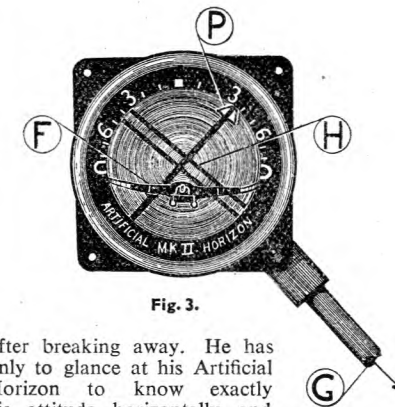

Fig. 3.
plane has moved above the horizon bar to indicate climb, and below the bar to indicate a glide or dive. In this way the Artificial Horizon provides the same reference as the natural horizon in clear weather. Unfortunately, the Mk. I will indicate angles up to only 90 degrees, left or right, so the Mk. II was needed to indicate all flying angles. Fig. 3 shows the dial of the Mk. II. It is shown indicating a left roll and dive. The miniature aeroplane (F) indicates the dive, the horizon bar (H) indicates the attitude of the